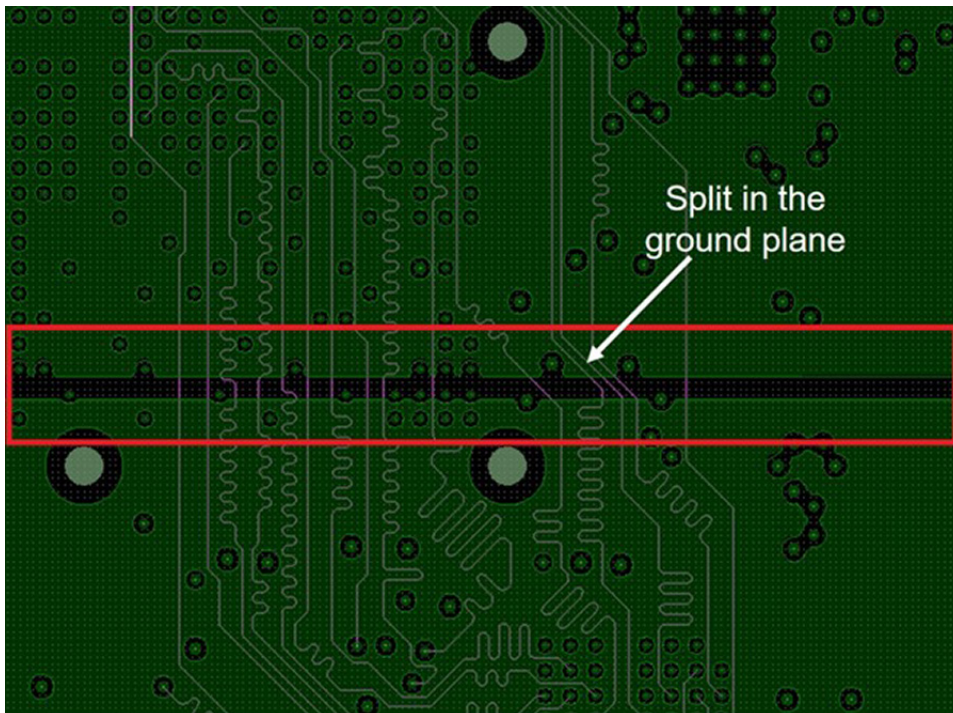

Figure 3. A layout image showing splits in the ground plane. This causes impedance discontinuity.
- Splits in the return path or reference plane, as shown in **Figure 3**.